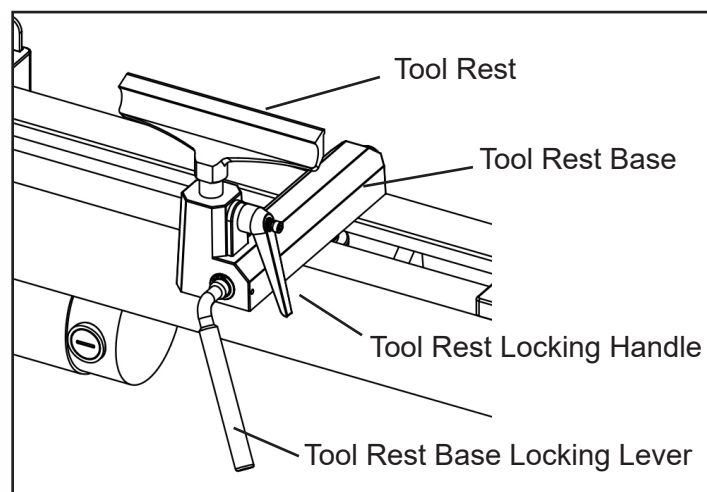

FIG. 3
2. Adjust the tool rest's height up or down to your desired position, and then secure The tool rest base in place with its locking lever. FIG. 3.